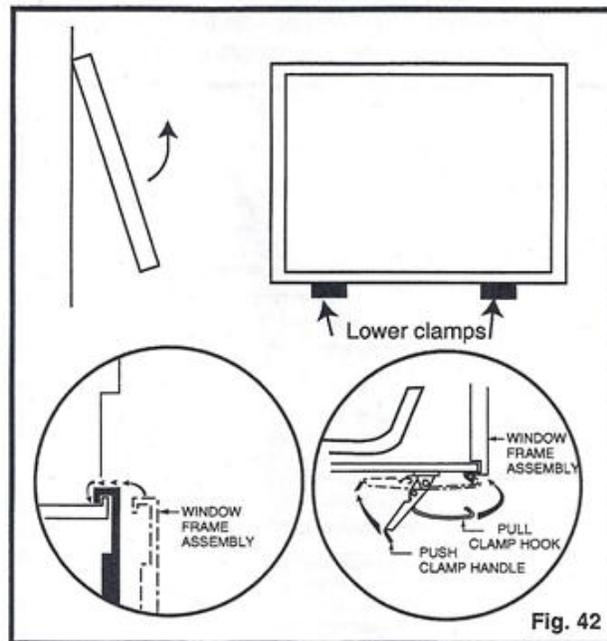

Fig. 42
5. Release the two clamps securing the lower edge of the frame by pulling down on the handles (Fig. 42).